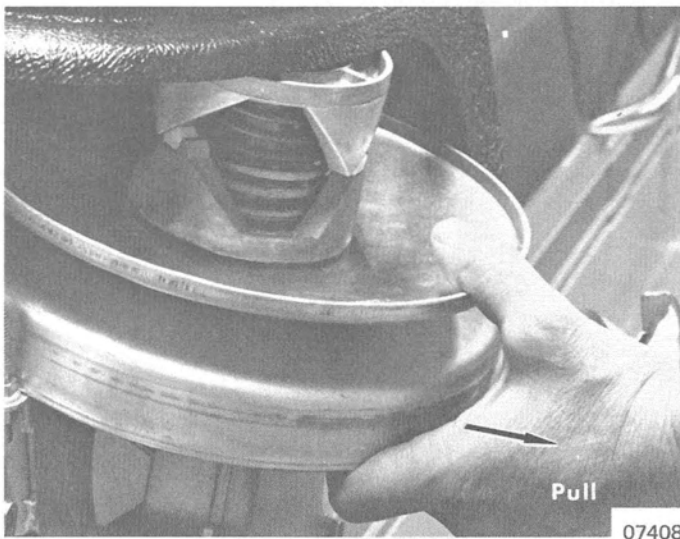

Figure 2. Removing Driven Sheave from Under Dash
5. Turn skis to left to remove driven sheave from under dash. (Figure 2)